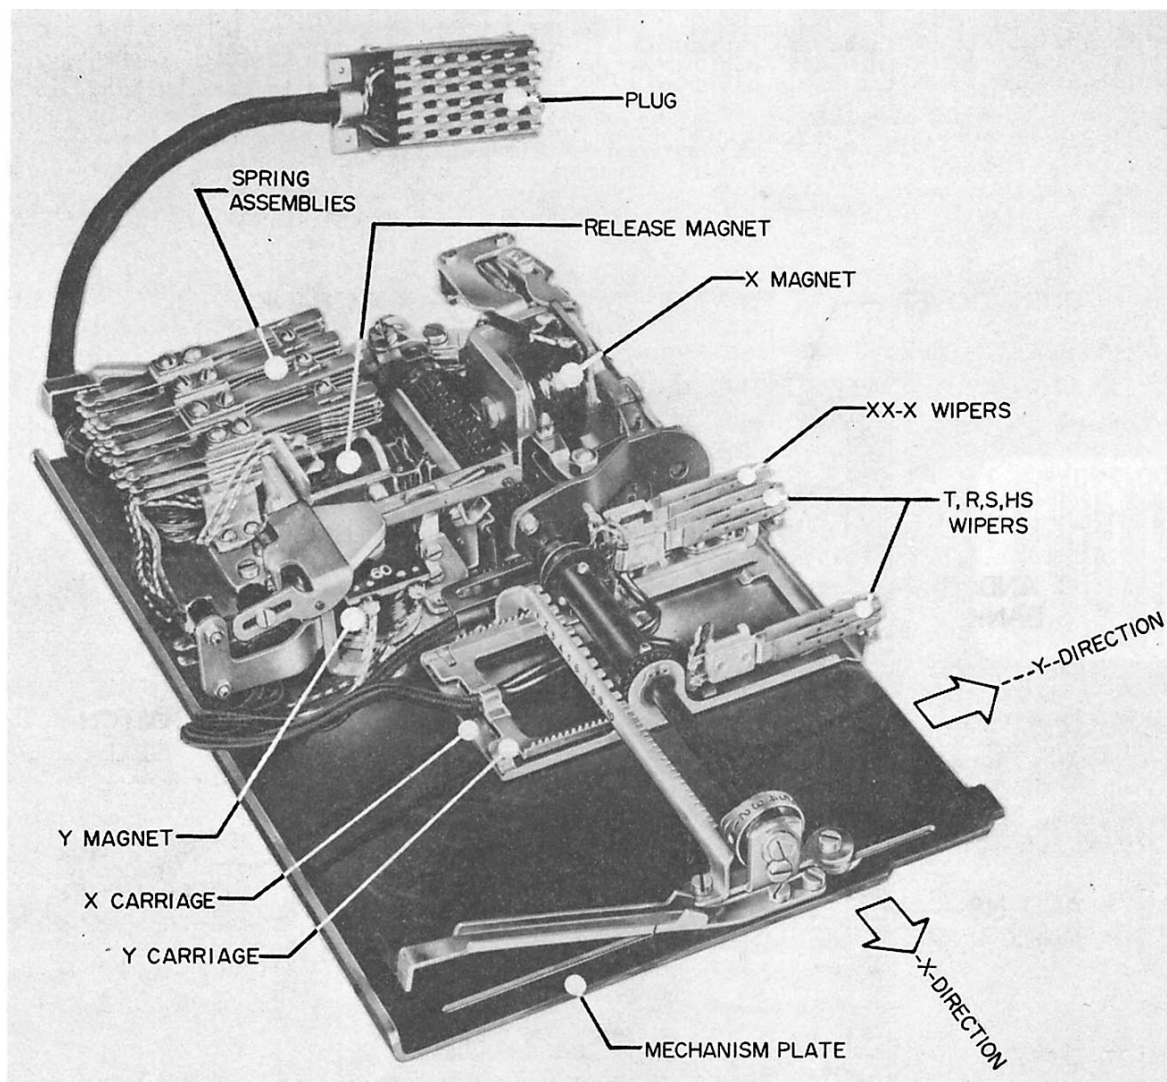

Figure 6-29.—XY switch.
**SWITCHING COMPONENTS AND LINE-FINDING.**— The XY universal switch (fig. 6-29) is the heart of the MDM system. It provides the means for establishing connections throughout the system. The XY universal switch is a 100-point, two-motion,
**THE XY SWITCH.**— The main components of the XY switch (fig. 6-29) are an X-stepping magnet, a Y-stepping magnet, a release magnet, spring